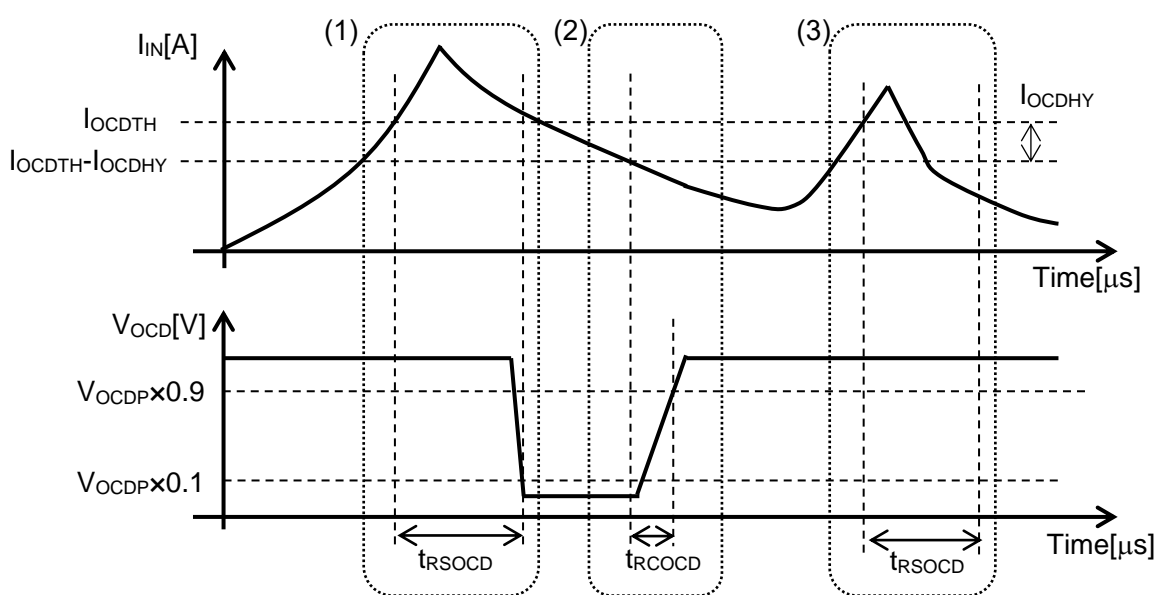

Figure 6. Overcurrent Detection Function of CZ-3AG4
10.4. Overcurrent Detection Function is operated as below. (See figure 6.)